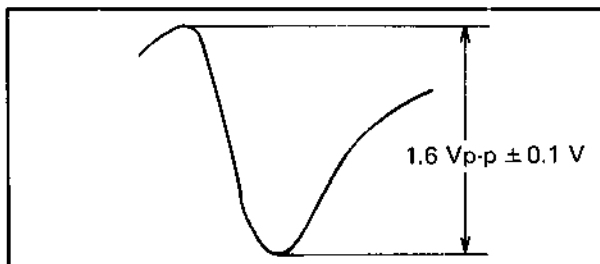

Fig. 6-46
6. Adjust the IF AGC bias voltage so that the waveform of the final stage has a voltage of 1.6 Vp-p on the oscilloscope as shown in Fig. 6-46.
8. Adjust the core of T105 so that the 37.3 MHz (HR-3330EK), 36.7 MHz (HR-3330EG) marker comes to the top of the waveform as shown in Fig. 6-46.
7. Adjust the IF AGC bias voltage so that the waveform has a voltage of 1.6 Vp-p on the oscilloscope as shown in Fig. 6-46.